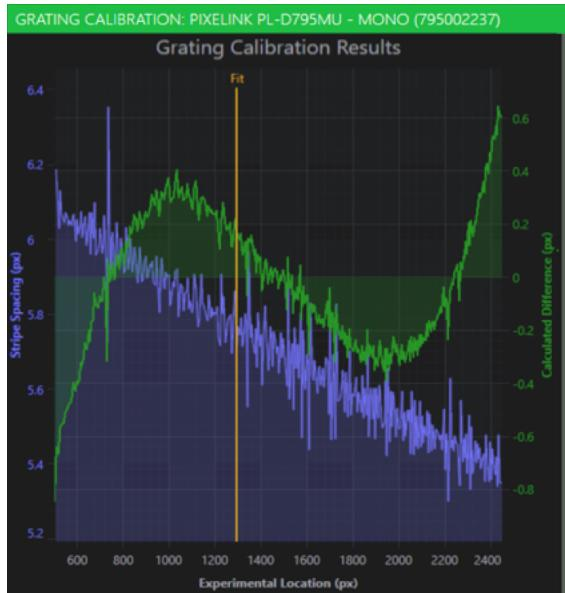

Figure 6-2 Screenshot after a successful Grating Calibration.
8. Click **Calibrate Grating**. The software determines the X-position of all the peaks of the experimental stripes in a “slice” across the sensor (there are usually ~100 stripe peaks). The software then compares these experimental positions with those predicted by the model, determines the difference between the experimental and predicted X-positions, then varies the model parameters to minimize the sum of (differences)². Once a good fit is obtained between the experimental and the predicted stripe positions, the software reports the results in both graphical and numerical form. Figure 6-2 shows a typical screenshot after a successful **Grating Calibration**.
As indicated by the right-hand vertical axis in Figure 6-2, the maximum deviation between the predicted and the experimental stripe positions is only ~0.7 pixels. The cursor shows the X-position of the blob that is used as the reference for the unwrapping process.